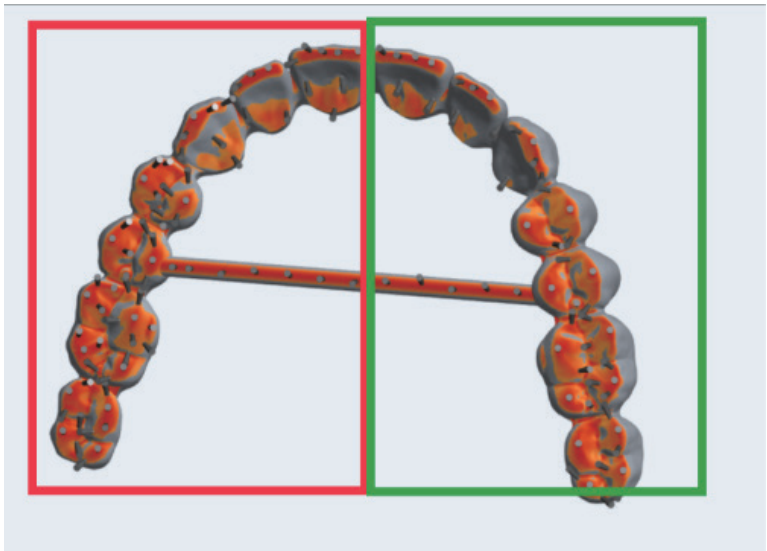
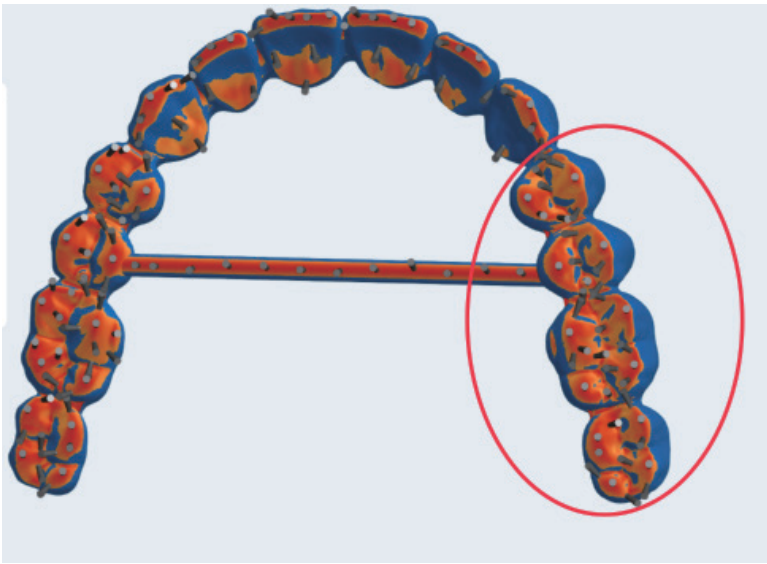

Figure 7
Figure 8
(5) Support automatically add finished, flip the view to the direction of the printing platform, or press the upper right corner of the BOTTOM  look at the image should be red-orange area should have uniform support Figure 7. The right side of the 1 area of red surface support for each tooth can be Figure 7, but the left side of the 2 area of green 4, 5, 6 teeth, support is not enough Figure 7, support needs to be added, you need to add 2-3 support in the red-orange area has not been supported by the part of the support Figure 8.